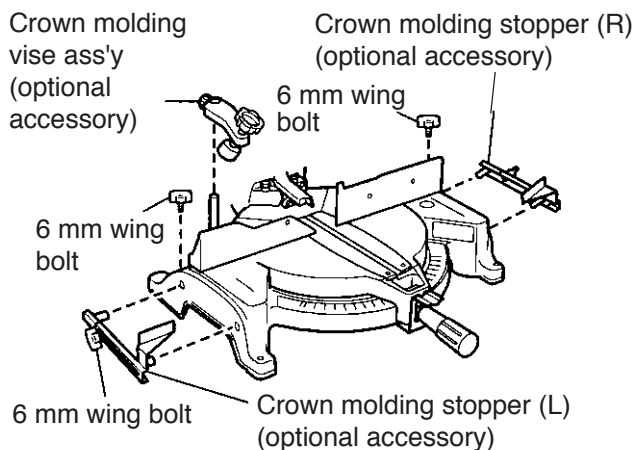

Fig. 22
- (1) Crown molding stopper (L) and (R) (optional accessories) allow easier cuts of crown molding without tilting the saw blade. Install them to both sides of the base as shown in Fig. 22. After inserting, tighten the 6 mm knob bolts to secure the crown molding guides.